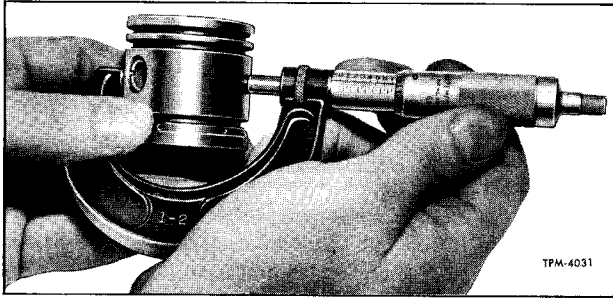

Figure 11—Measuring Piston Diameter
8. Pistons (Fig. 11). Examine pistons for scoring, cracks, or damage of any kind. Measure outside diameter of piston with a micrometer and compare this measurement with the inside diameter of cylinder bore. Clearance should not be less than 0.002" or more than 0.004". Piston over 0.004" smaller than cylinder bore must be replaced with an oversize piston.